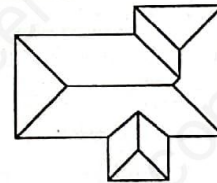

Figure 4
21. The simplified roof plan of Figure 4 below shows that this roof has